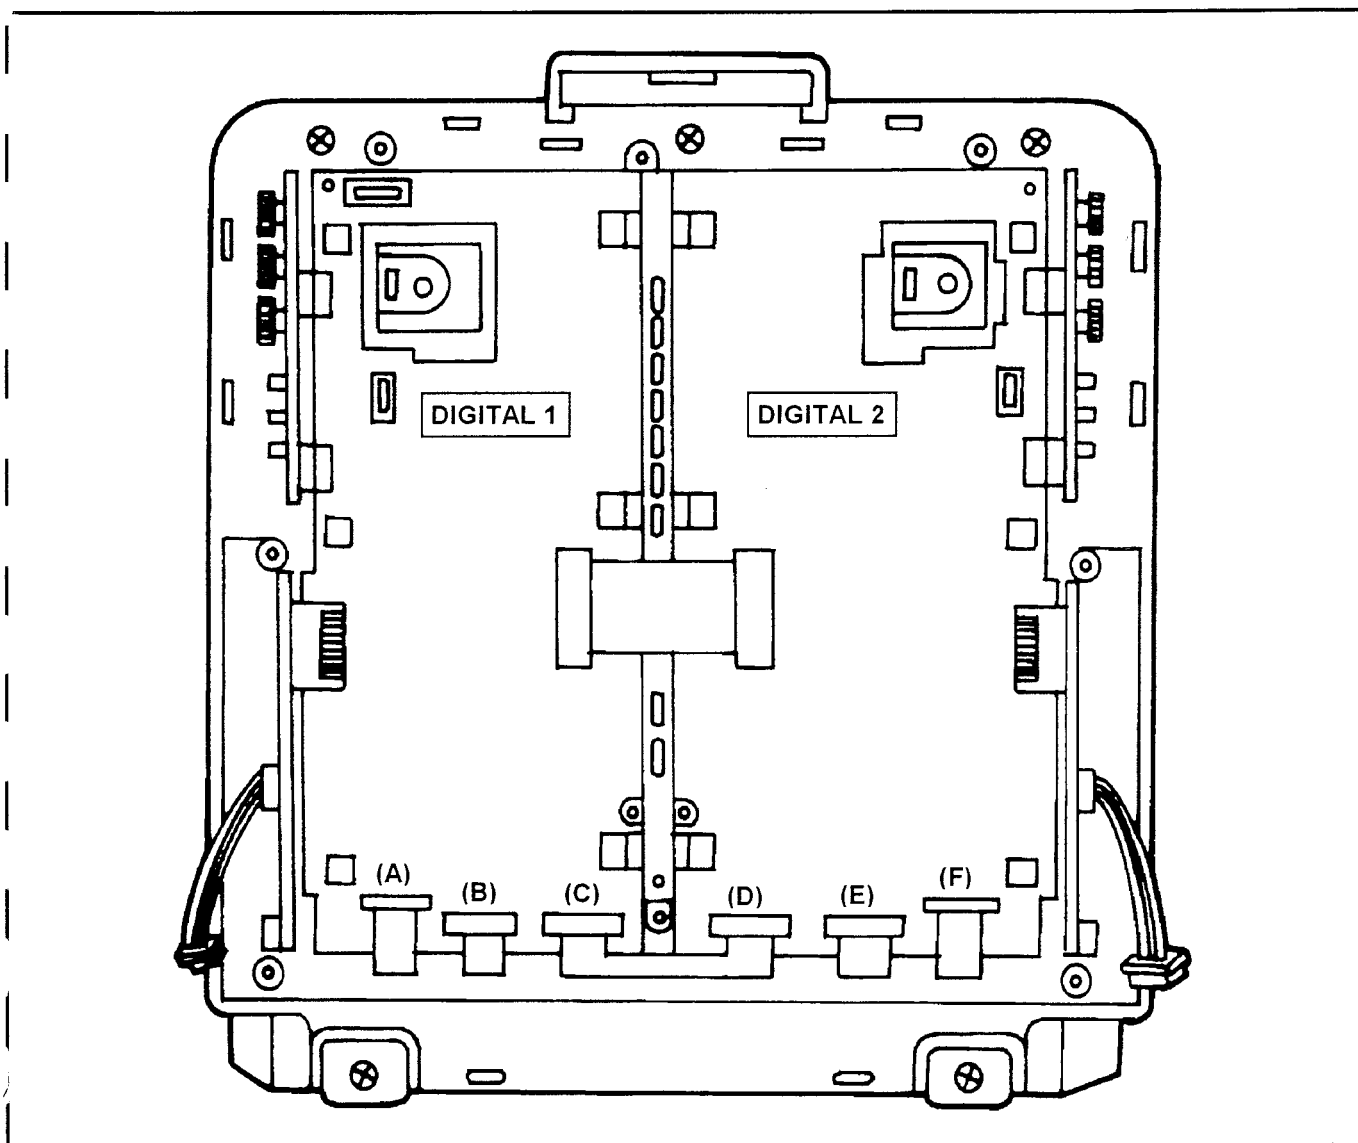

Figure 17
8. Disconnect the connector (A): P7802, (B): P7801 and (C): P7812 on the Analog 1 P.C.Board as shown in Figure 17.
9. Disconnect the connector (D): P7801, (E): P7811 and (F): P7802 on the Analog 2 P.C.Board as shown in Figure 17.